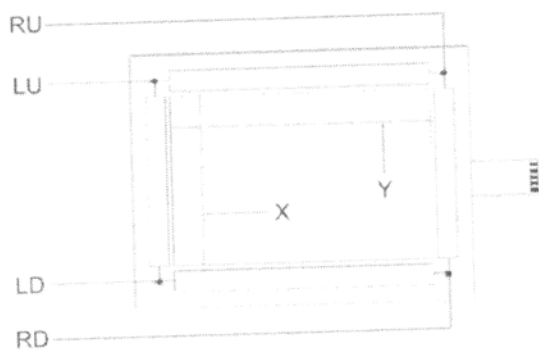
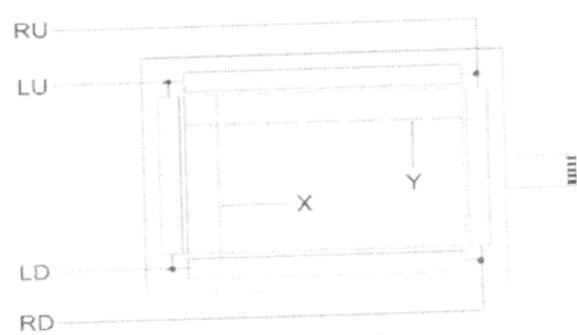

Figure 1
Figure 2
(1) Supply voltage	DC 7V max.
(2) Circuit Resistance	(1)X:200~900 ohm, Y:200~900 (See Figure 1) 4:3 (2)X:350~1300ohm, Y:120~450ohm(See Figure 2)16:9
(3) Linearity	$X \leq 1.5\%$, $Y \leq 1.5\%$
(4) Response	$\leq 10\text{ms}$
(5) Insulation Resistance	10Mohm min/25(DC)
(6) Endurance	No acting damage at DC50V/60sec.